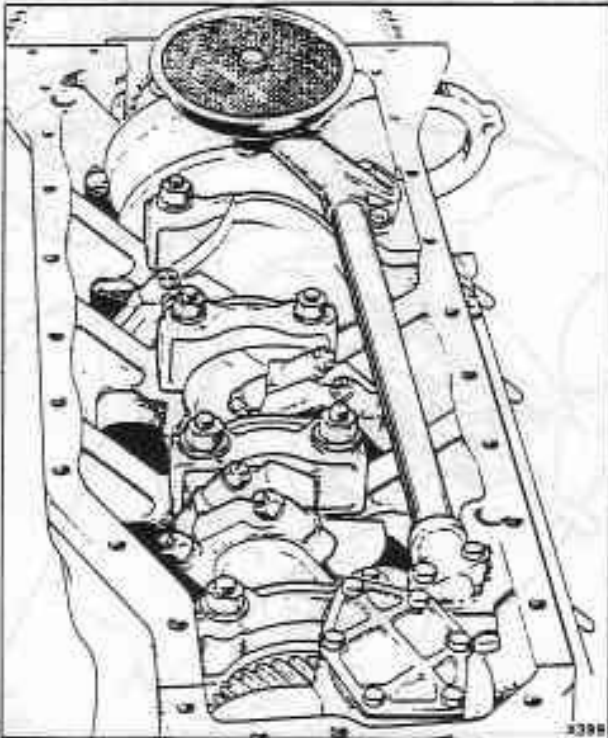

Fig. E5-9 View with the sump removed
14. Fit the oil strainer pick-up and pedestal (see fig. E5-9).
25. Visually inspect the big-end and main bearings (see fig. E5-9) and fit the engine sump, using a new gasket.